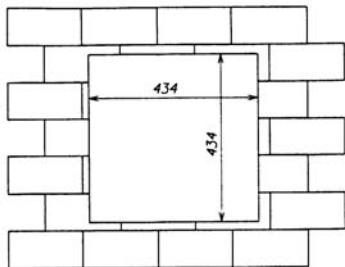

Fig. 1b WX12
3. Mark the outline of the hole on the wall as shown in Fig. 1a and Fig. 1b.